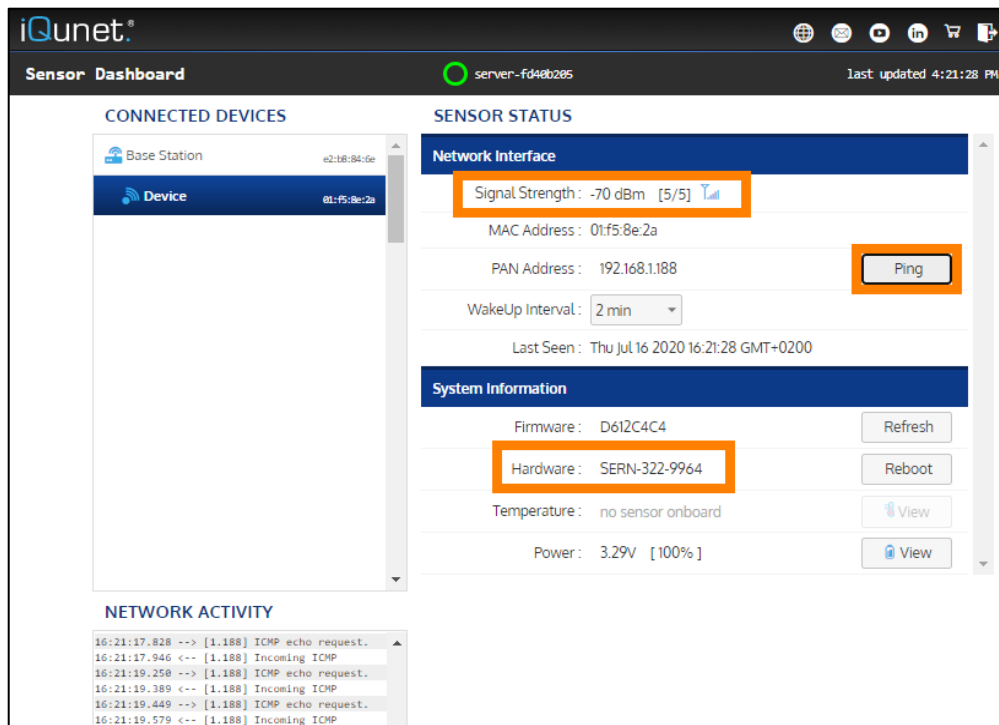

Figure 7: Adding a Repeater Device
- a. Open the server dashboard (see Fig. 7)